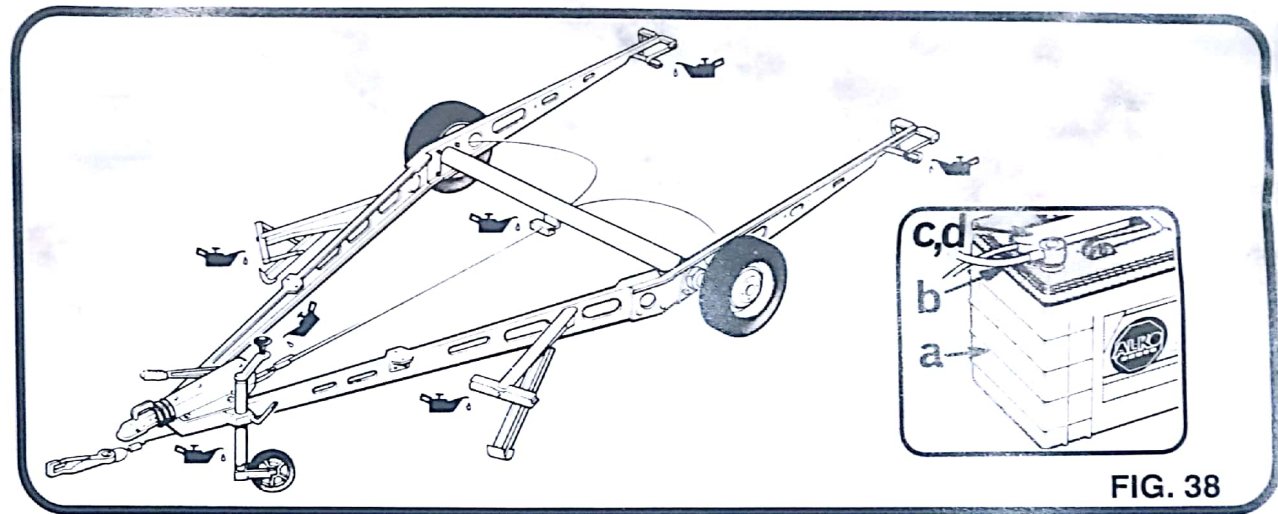

FIG. 38
Lubrication (Fig. 38)
2.11 Service the Battery (Fig. 38)